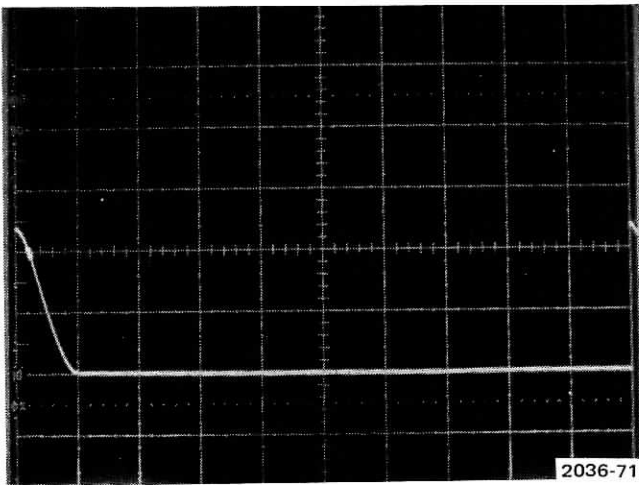

Fig. 6-6. Sweep start and stop adjustment (465B).
- Set the CH 1 vertical POSITION control so the falling edge of the first time marker intersects the minor graticule division mark closest to the extreme left major vertical graticule line (see Figure 6-6). Do not change the vertical POSITION control setting for the remainder of Step 1.